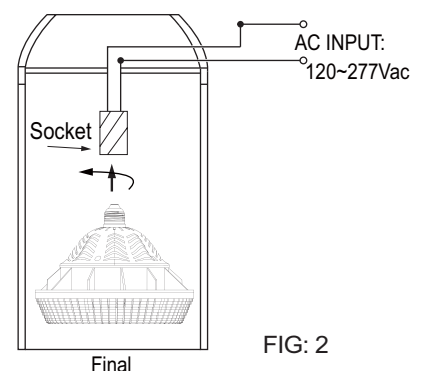

FIG: 2
Step 6- Turn on electrical power to fixture. (See FIG: 2)